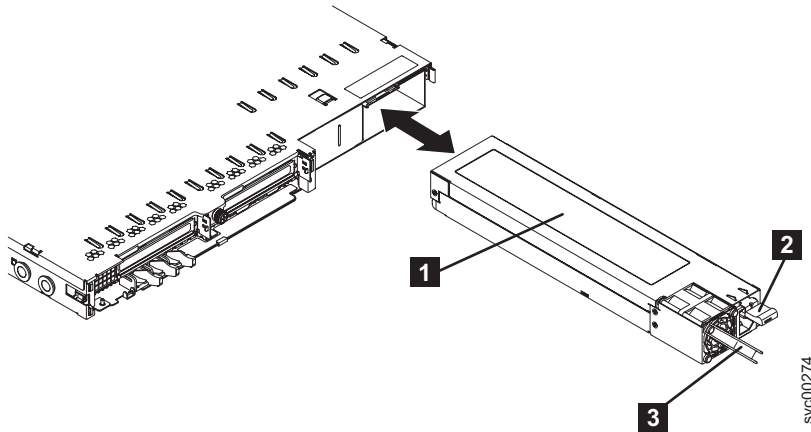

Figure 151. SAN Volume Controller 2145-8G4 power supply
3. Press and hold down the orange release tab **2**, which is shown in Figure 151 on page 167, and pull the power supply out of the node.